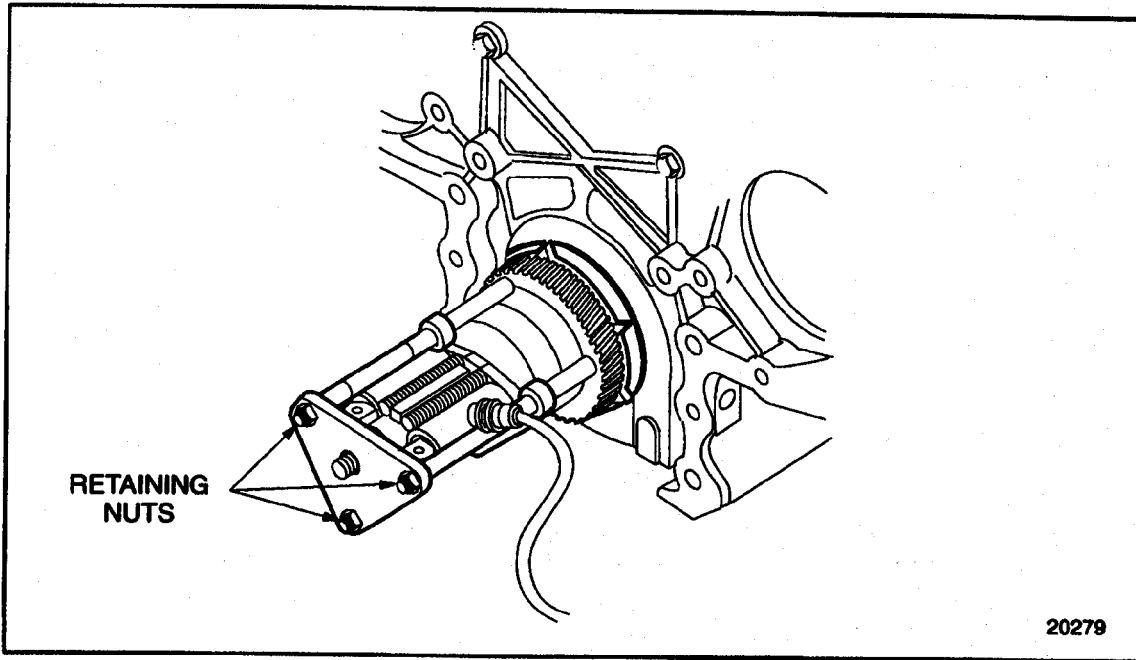

Figure 1-389 Retaining Nuts Installation
14. Install the three retaining nuts to the legs. Tighten the nuts to the pressure plate. Finger-tighten the nuts. See Figure 1-389.